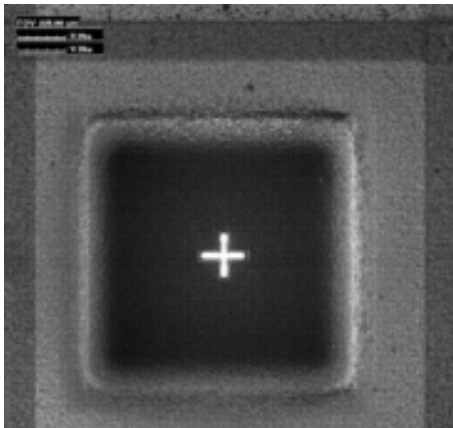

Figure 7: High-resolution trenching enables edits at advanced nodes. [Image courtesy of FIB International Inc.]
- In another example, Fig. 7 shows a typical back-side FIB circuit edit in which a probe pad is formed for micro probing.